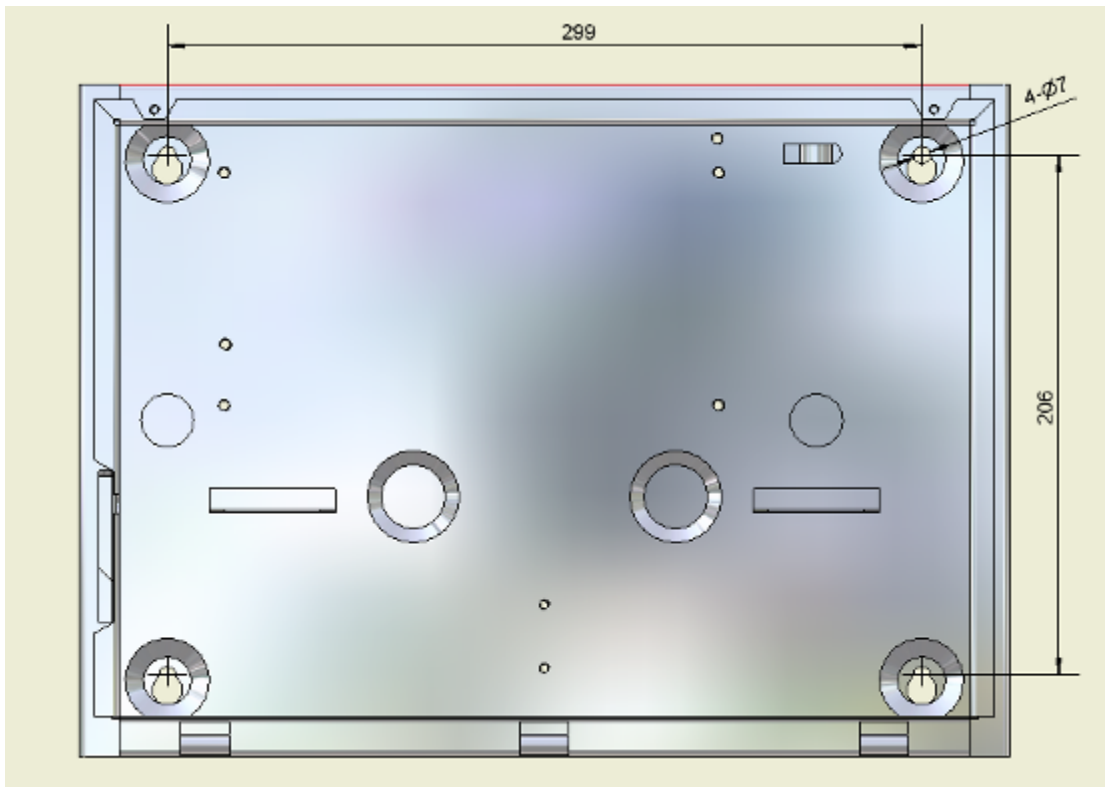

Figure 1 Mounting holes for BC8001A
3. Mark the location of the four mounting bolts on the wall. (Refer to figure 1)